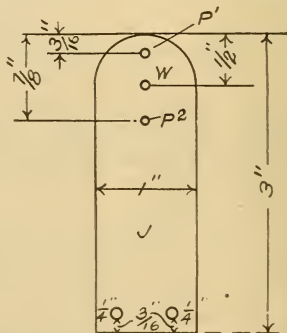

FIG. 14. SPRING BRASS STRIP
The spring brass strips (J) and (I) are now prepared. (J) should measure three inches high, one inch wide and 1-32 inch thick. The top is rounded off as shown in Fig. 14. Holes one-eighth inch in diameter (O, O) are drilled through, three-sixteenths inch from the bottom and one-fourth inch from the edges. The hole (P') is drilled through the center three sixteenths inch from the top, and (P2) is seven-eighths inch from the top. The hole (W) is one-